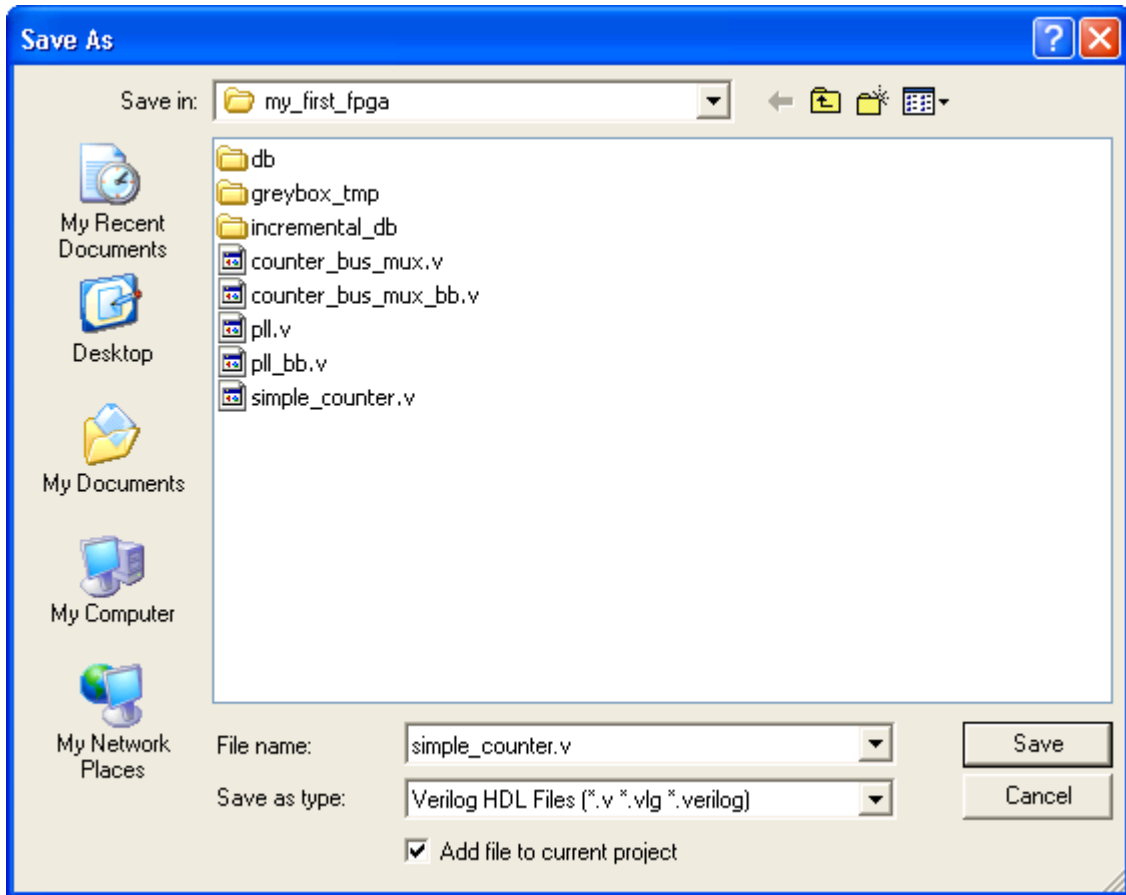

Figure 6-14 Saving the Verilog HDL file
7. Select File > Save As and enter the following information (see **Figure 6-14**).